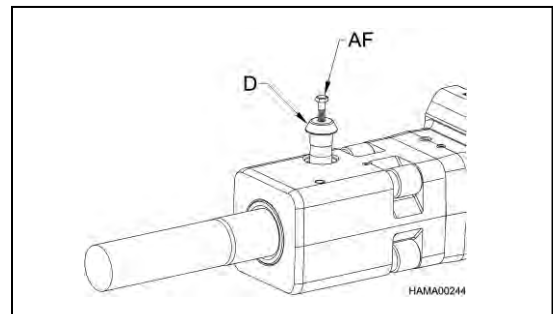

Figure 3
2. Screw an M12 bolt or cap screw (AF) into the retainer pin (D), see Figure 3.
3. Pull out retainer pin (D). If the retainer pin (D) is jammed, use a hammer and drift from the opposite side.